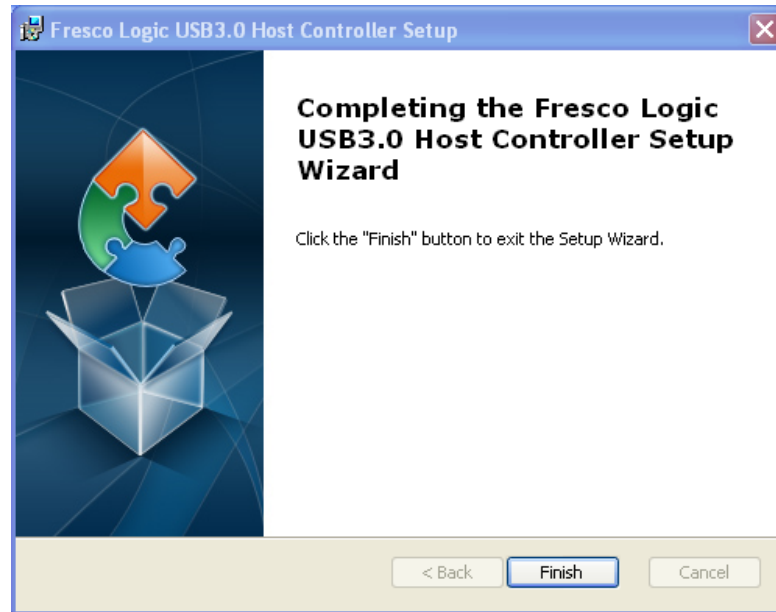

Figure 6-27: USB 3.0 Driver Installation Complete
Step 10: When the driver installation is complete, the screen in **Figure 6-27** appears.